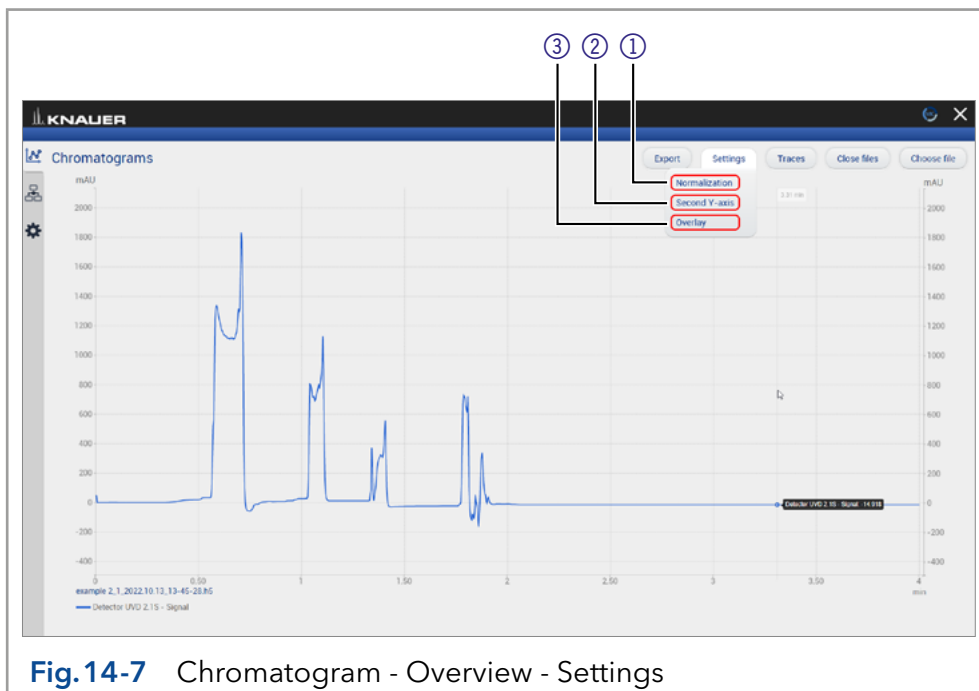

Fig.14-7 Chromatogram - Overview - Settings
| ④ Settings | Chosse between Normalization, Second y-axis and Overlay (refer to Fig. 14-7) |